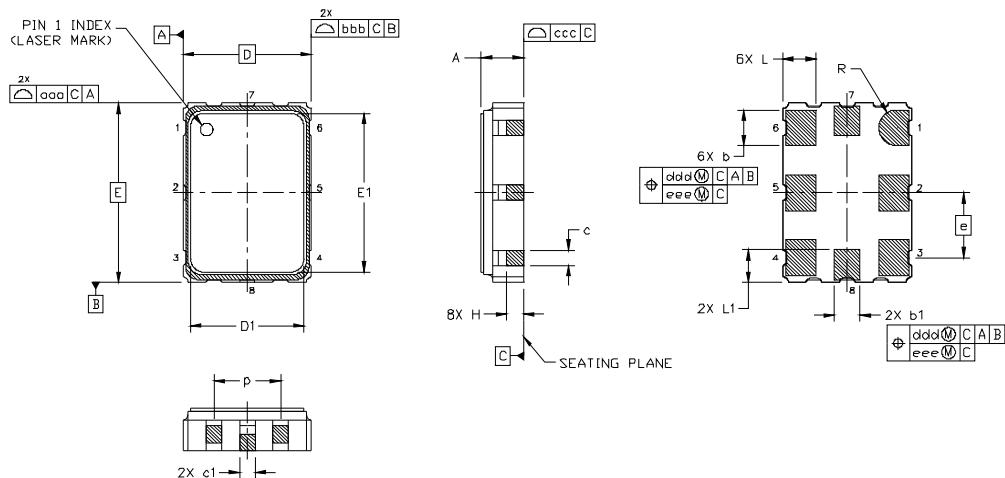

Figure 7. Si598/Si599 Outline Diagram
Figure 7 illustrates the package details for the Si598/Si599. Table 19 lists the values for the dimensions shown in the illustration.
- Corrected pin 7 and pin 8 designation in package diagram in Figure 7 on page 25.